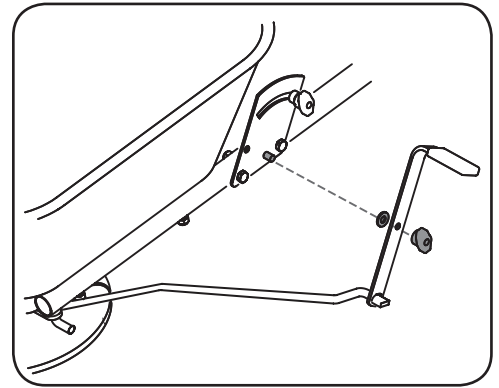

Figure 2-14
- Reattach the control handle to the control plate using the washer and wingnut previously disassembled. See Figure 2-14.